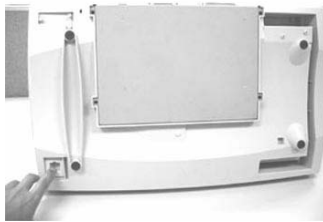

Figure 2-1 Unlocking the Shipping switch
- ii). Unlock the scanner by moving the lock switch beneath the scanner to the “Unlock” position (See Figure 2-1).